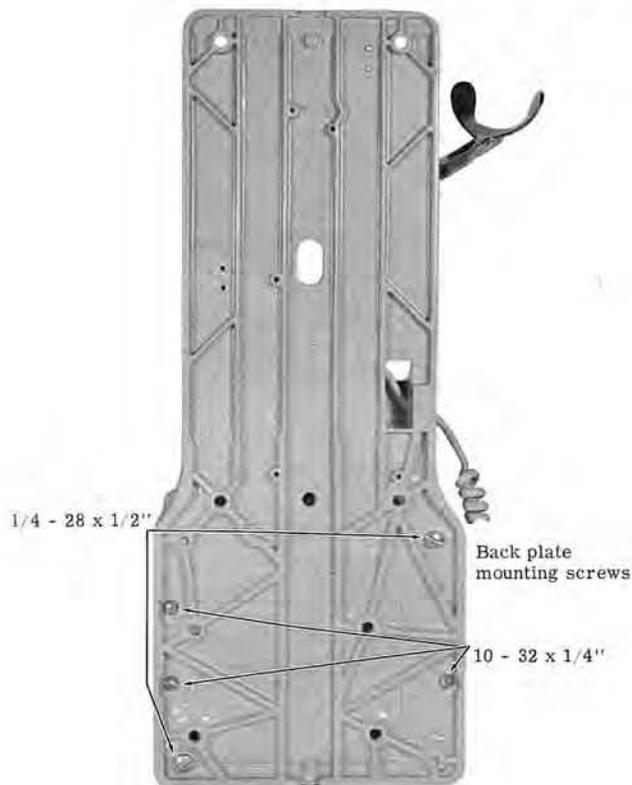
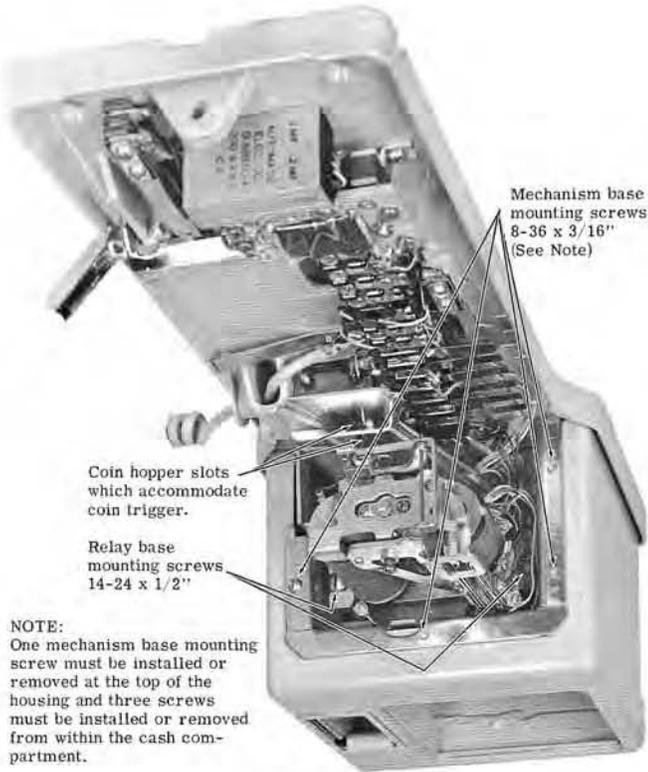
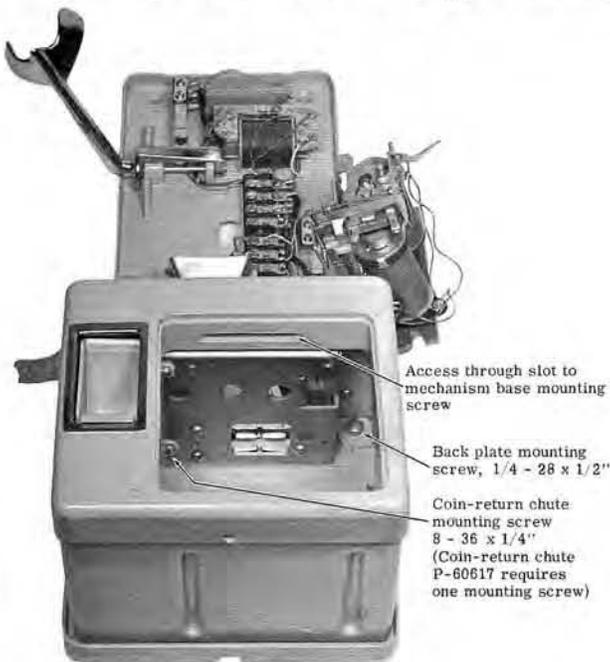
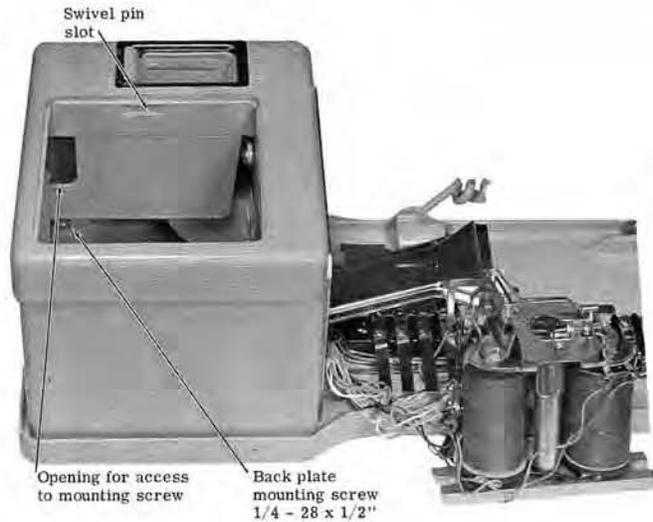

Figure 2.
Figure 3.
Figure 4.
Figure 5.
- (4) Remove five mounting screws from the rear of the back plate (see Fig. 2).
- (5) Remove dust cover clip and dust cover. Remove the two screws which attach the coin relay mounting base to the mechanism base (see Fig. 3). Carefully withdraw the coin relay assembly from the mechanism base and lay aside. Do not disconnect wire connections.
- (6) Remove the two remaining screws which attach the back plate to the lower
housing (see Figs. 4 and 5). Access to the back plate mounting screw shown in Fig.5 is attained by placing a screwdriver with a blade of approximately 6
inches through the slot (shown above the mounting screw in Fig. 5) and onto the screw. Remove lower housing from back plate. Be careful not to disturb relay assembly wire connections.
- (7) Remove four screws which attach mechanism base to lower housing (see Figs.3 and 4). Remove coin-return chute and mechanism base.
- (12) Insert swivel pin. Lay the housing on the work bench with the left side down so that the head of the swivel pin is flush against the work bench. Peen over legs of swivel pin against side of partition within slot (see Figs.5 and 10). Legs must be peened completely into slot. If any portion of legs protrudes above slot, installation of cash compartment door may not be possible.
- (1) Remove mounting screws that attach old coin-return chute to mechanism base.
- (2) Place the mechanism base in position on lower housing with mounting holes aligned and install mechanism base mounting screws (see Figs.3 and 4). Install the screw through the slot last (see Fig.4); Use adhesive material such as beeswax on tip of screwdriver to hold screw during insertion.
- (3) Install coin-return chute mounting screw (see Fig.4).
- (4) With the lower housing upright, place the back plate and relay assembly in position for attachment. Be careful not to disturb relay assembly wire connections.
- (5) Install five back plate mounting screws from rear of back plate (see Fig.2).
- (6) Align relay assembly so that coin trigger lever is positioned through both slots in coin hopper (see Fig.3) and does not touch any side of slots. Trigger will rest against top of slots. Install relay base mounting screws (see Fig.3) maintaining trigger alignment in slots. Check for free trigger movement after base mounting screws have been installed.
- (7) Place back plate and lower housing down on bench so that opening in cash compartment faces up. Install back plate mounting screws shown in Figs.4 and 5. To install screw shown in Fig.5, attach screw to screwdriver tip with adhesive material such as beeswax; insert screw through opening (shown above mounting screw in Fig.5) and into position; tighten screw.